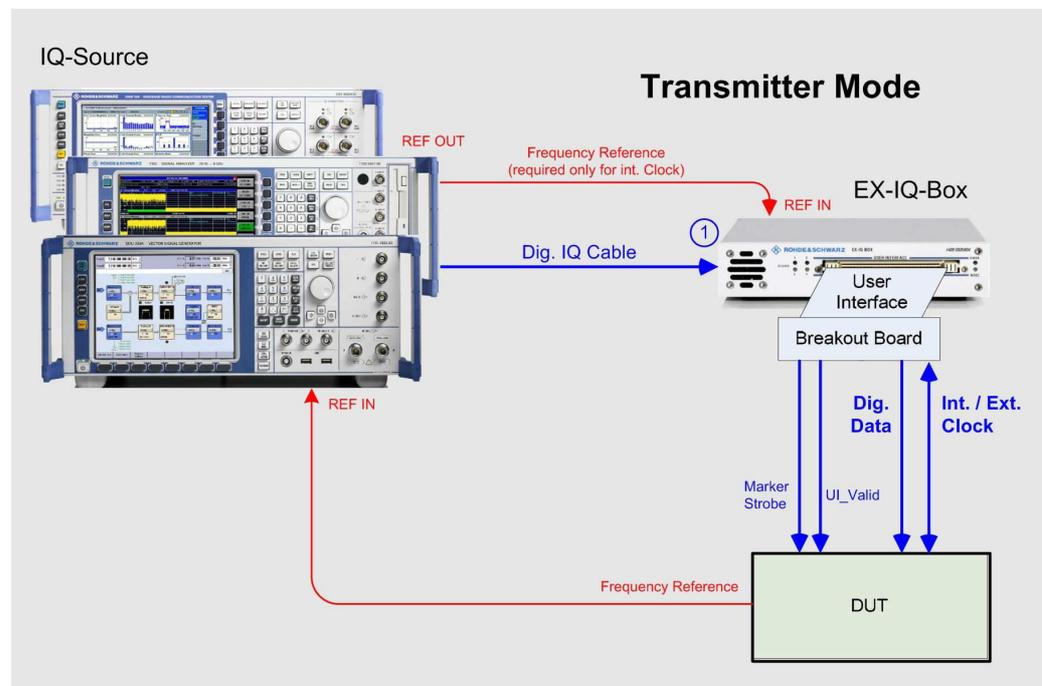

Figure 23: Instruments and signals in transmitter mode
Figure 23 shows a recommended hardware setup for the R&S EX-IQ-Box's transmitter mode. (The computer with the *DigIConf* control software is no longer included in the following drawings.)
The reference connections of Figure 23 are recommended because this setup works in transmitter mode as well as in receiver mode, using internal clock as well as external clock.
The cable with the Marker / Strobe signal in Figure 23 on page 23 is only needed if you are working with serial data or with interleaving.
The cable with the UI_Valid signal in Figure 23 on page 23 is only needed if you are working with parallel data and you have explicitly set the Sample / Clock Ratio in *DigiConf* to a value less than 1.
- ▶ Connect the generator, R&S EX-IQ-Box and DUT as shown in Figure 23 on page 23.
- ▶ Connect the analyzer, R&S EX-IQ-Box and DUT together as shown in Figure 23 on page 23.